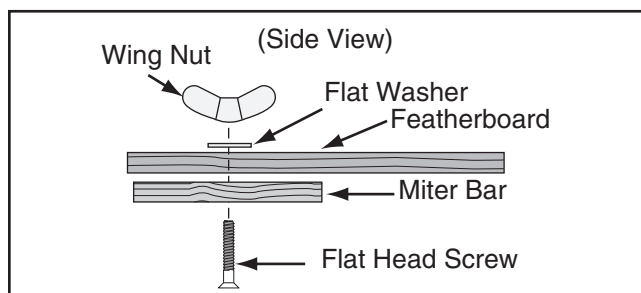

Figure 99. Assembling miter slot featherboard components.
8. Assemble the miter bar and featherboard with a $\frac{1}{4}$ "-20 x flat head screw, flat washer, and a wing nut (see **Figure 99**). Congratulations! Your featherboard is complete.